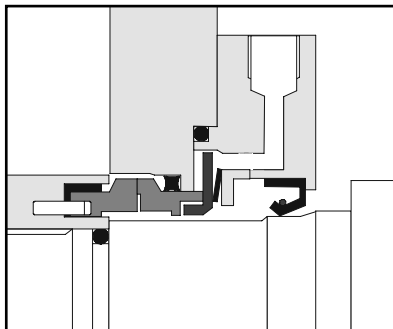

Figure 16
- a) Push new lip seals into housings. Assemble spacer collar, wave spring and drive plate as shown on figure 16. (Also see section 6.06).
- d) When re-fitting rotor case to bearing housing, take care that lip seals and mechanical seals (80) are not damaged by the shaft splines or shaft ends.